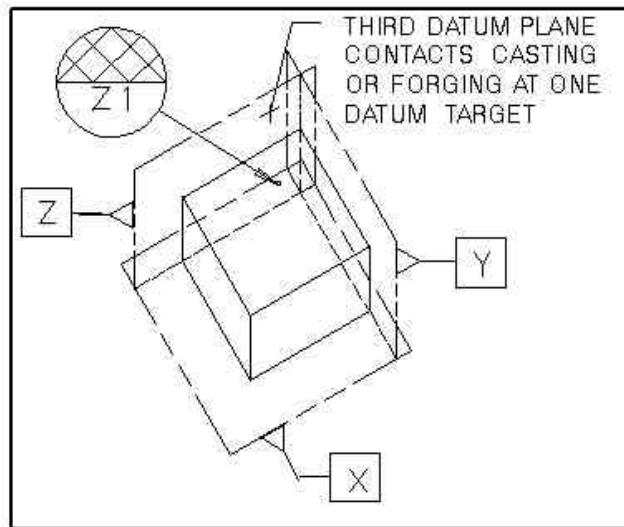

Figure 6 – Datum Z – 1 Datum Target
**8.2.9** Datum Plane Z, shown in phantom in Figure 6 as the third datum plane, is the theoretical plane, perpendicular to datum planes X and Y, which is established by contacting the final datum target and is used as a reference plane or zero location for all dimensions perpendicular to Datum Z.